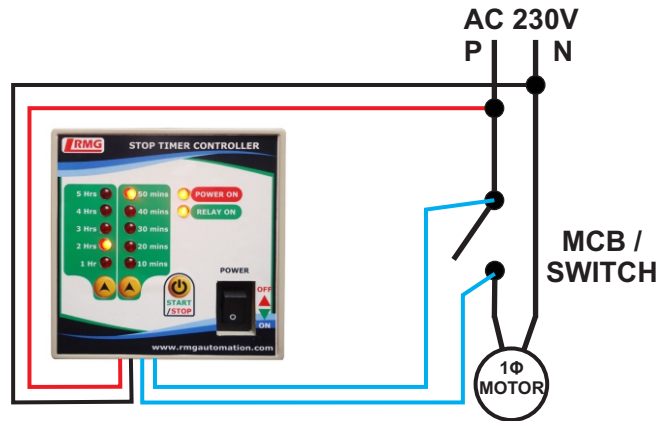

Figure1: 1Φ SWITCH/MCB
- Step 2:** As per the model purchased, check the label and connect AC supply (230V / 440 V) to red and black wire of timer refer figure 1&2.
- Step 3:** Connect blue pair wire to the switch/MCB of the load in parallel as shown in figure 1.